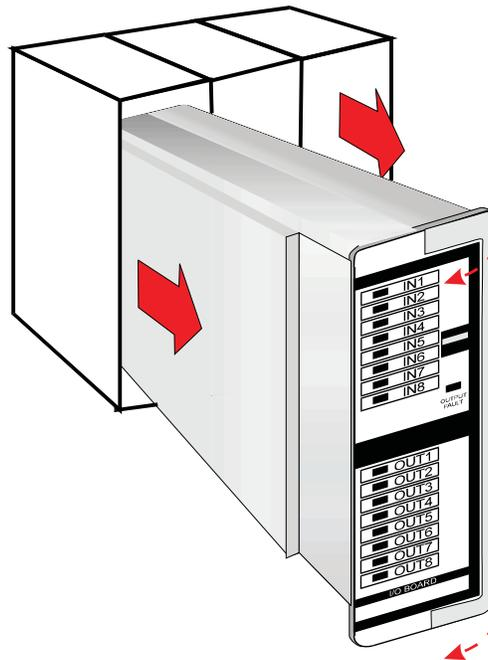

Figure 7-1
- 4. Pull the module straight out of the mounting slot. See Figure 7-1.**